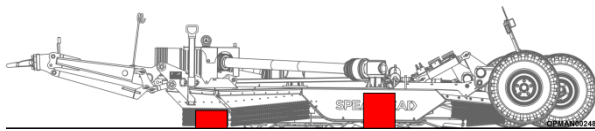

Figure 5.59
5.6.2.4 Fully support the centre and wing decks of the machine with fixed stands or substantial blocks; see Figure 5.59.